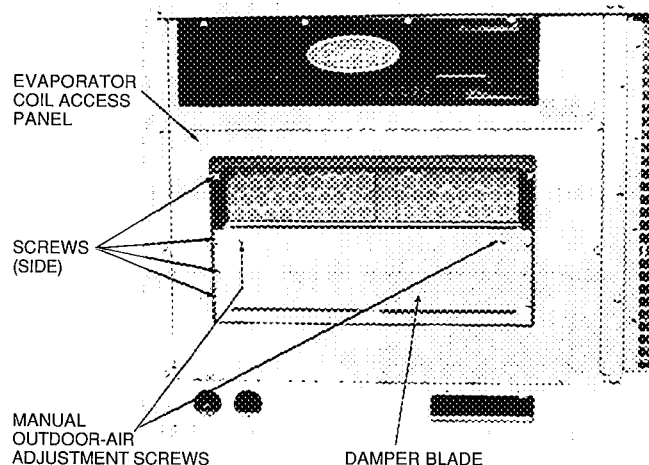
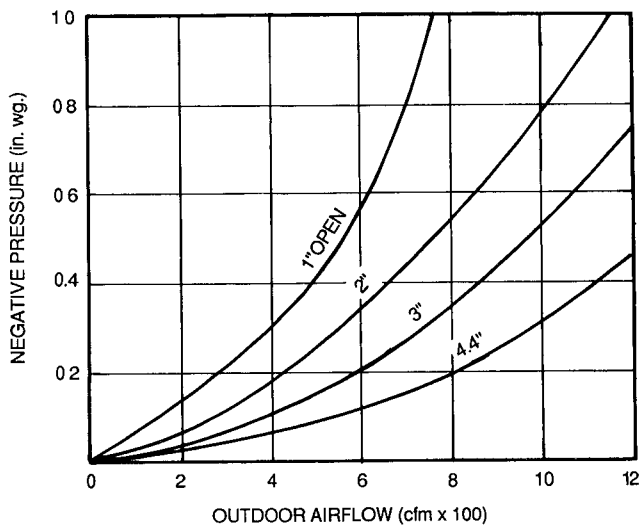

Fig. 12 — Damper Panel with Manual Outdoor-Air Damper Installed
Fig. 15 – Position Setting
2. Remove and save evaporator coil access panel and screws. See Fig. 12.
8. Adjust minimum position setting of the damper blade by adjusting the manual outdoor-air adjustment screws on the front of the damper blade. See Fig. 12. Slide blade vertically until it is in the appropriate position determined by Fig. 15. Tighten screws.